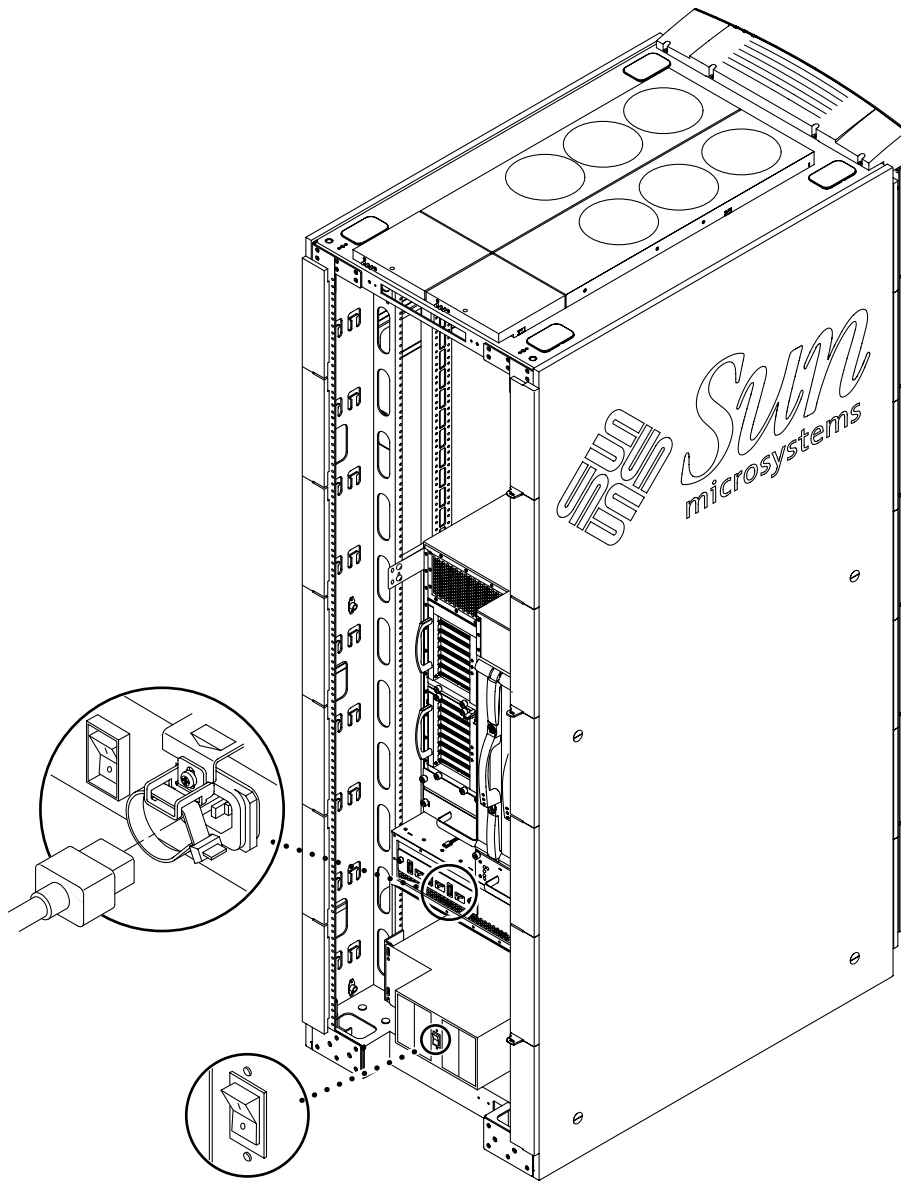

FIGURE 3-3 Power Switch Locations on the Cabinet Mounted Sun Fire E4900 System
1. Ensure that each power switch on the Sun Fire cabinet is set to off (FIGURE 3-3).
1. Turn each power switch to the on position (FIGURE 3-3).
6. Turn each power switch to the on position (FIGURE 3-3).